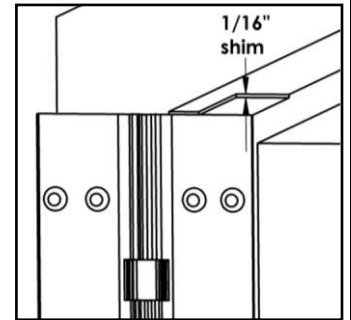

Fig. 1
Frame Preparation (See Fig. 1)
4. Using the transfer punch, center punch both the mounting holes and the wire access hole. See Fig. 1. The middle hole is the wire access hole.